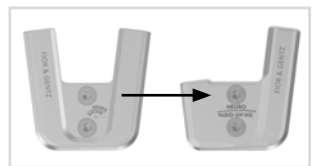

Fig. 34
- 4 Mount the functional unit of the desired system joint in the correct system width (see example fig. 34).